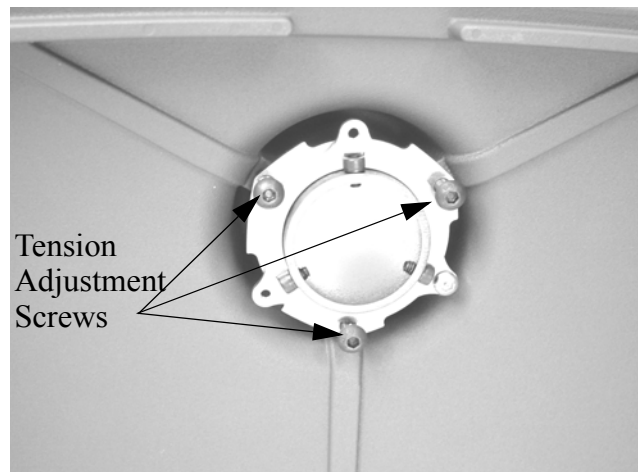

Figure 7. Tension Adjustment Screws
- Using security wrench (8) supplied, install cover (2) on stand assembly (1) using four screws (3) (see Figure 6 and Figure 7).
- Using access hole in bottom of table and security wrench, slightly tighten or loosen adjustment screws on stand assembly (see Figure 7).